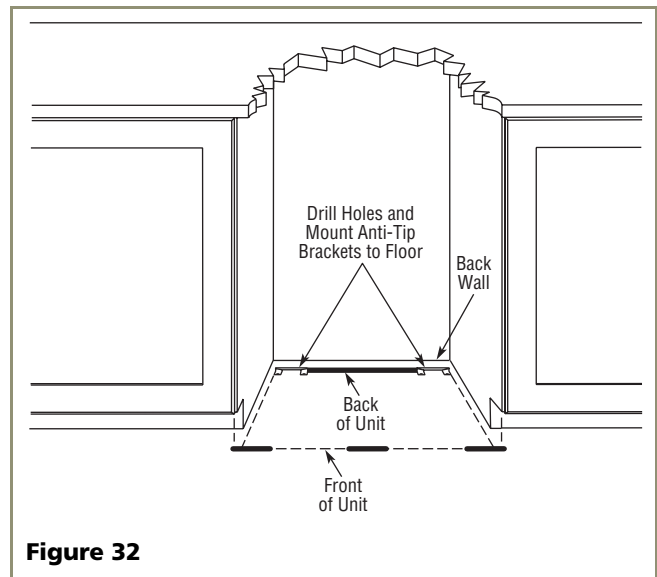

Figure 32
5. Place the Anti-Tip Brackets on the floor against the line drawn for the outer edge. Mark spots for the screw holes. See **Figure 32**.